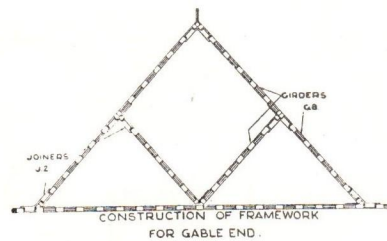

Figure 24
**ROOFING.** For the building of large pitched roofs, gable end pieces are used. From the illustrations it will be seen that these pieces can be put together to form a gable end of any size. The construction of the frame to receive these pieces being almost exclusively of 3" girders (G.8) and joiners (J.2) see Figs. 24 and 25.